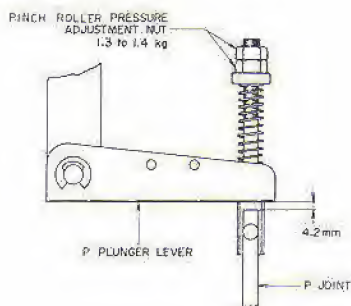

Fig. 3
- 2) Insert a 4.2 mm gauge (a U type washer etc.) between the P Plunger Lever and P Joint (Refer to Fig. 3).
3. PINCH ROLLER PRESSURE ADJUSTMENT (Refer to Fig. 3)